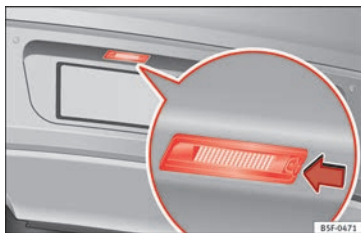

Fig. 117 In the rear bumper: number plate light.
1. Press the number plate light in the direction of the arrow » Fig. 117.